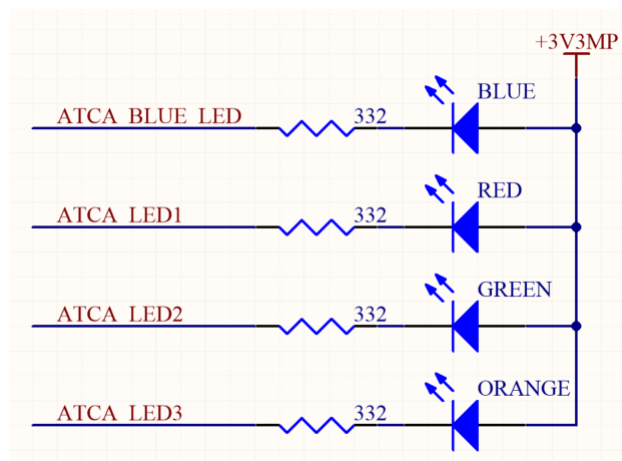

Figure 9.2 ATCA LED Interface
These LEDs are recommended to be powered by the 3.3V management power (MP) source while being biased by 332 Ω resistors as seen in Figure 9.2.